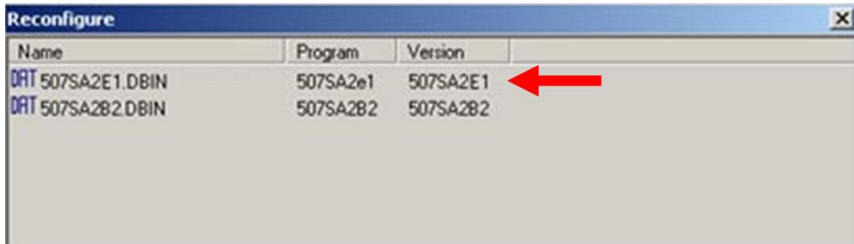

Figure 20
3.14. Select the 2E1 software (arrow, Figure 20) and confirm with: '**GO**' and then with : '**YES**'